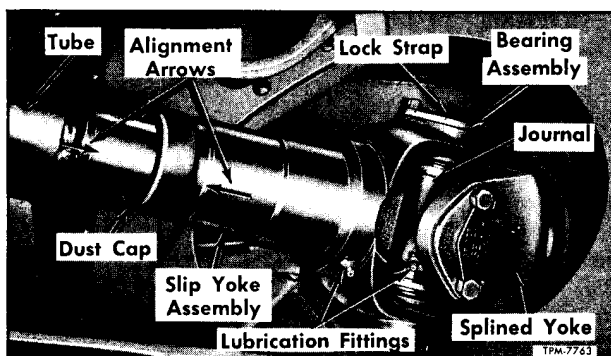

Figure 3—Propeller Shaft Installation At Transmission
3. Disconnect slip yoke from transmission splined yoke (fig. 3) by removing two bearings from splined yoke as directed in steps 1 through 3 under "Universal Joint Disassembly."